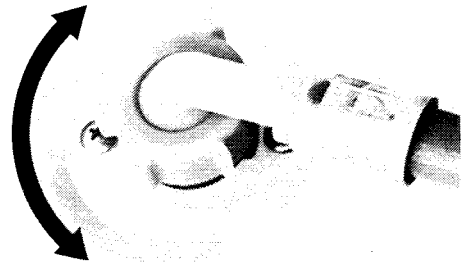

Fig. 9
**Note:**The cold water fill hose and the drain hose are supplied separately, under the lid of the washer, and must be connected upon installation of the machine by going through a few simple steps. The drain hose should be fitted (with the straight end) over the special plastic connector to be found on the back of the washing machine, next to the hot water fill hose, and should then be fastened by means of the circlip hanging from the back of the machine. The cold water fill hose should be screwed, with the end shown in Fig. 9, onto the nipple to be found on the back of the machine, in the upper right part.
The other end of the water inlet hoses, which are connected to the appliance, can be turned in any required direction by unloosening their ring nuts (Fig. 9).